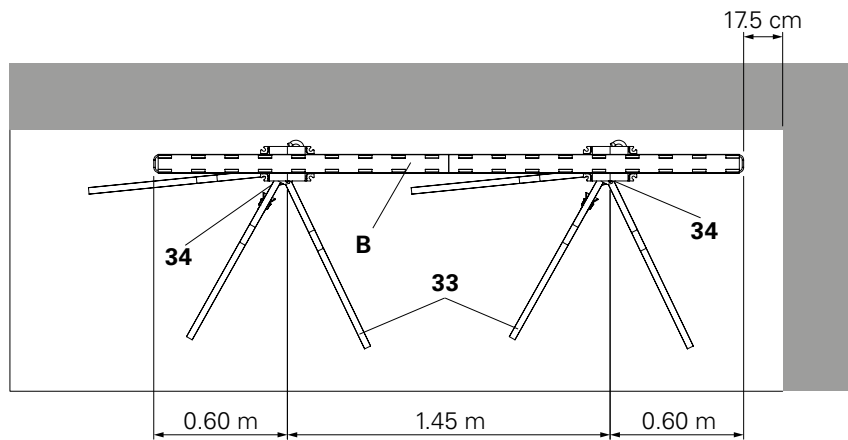

Fig. D6.10
- 60 cm for VT 20 L = 2.65 m (**B**) (Fig. D6.10)